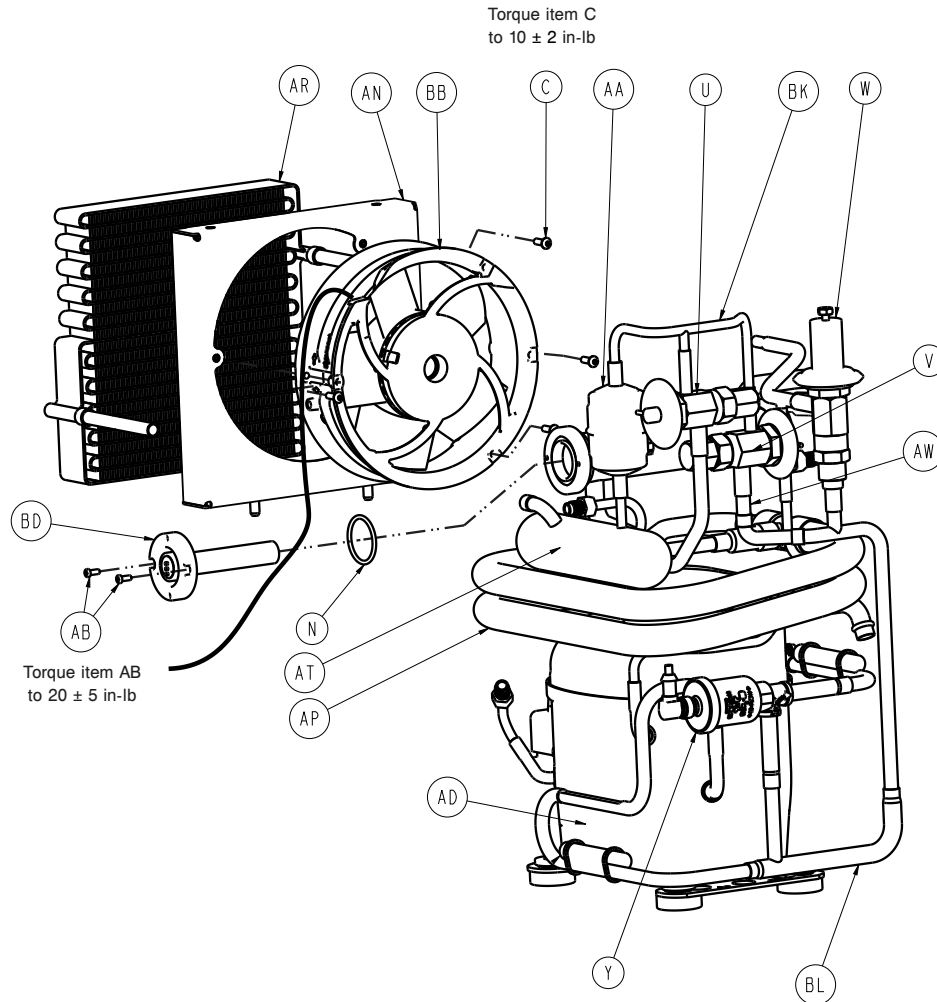

Figure 23 – Heater well
23. Using a T10 Torx driver, remove the two screws (AB) that secure the heater (BD) to the heater well assembly (Figure 23). Save the screws.